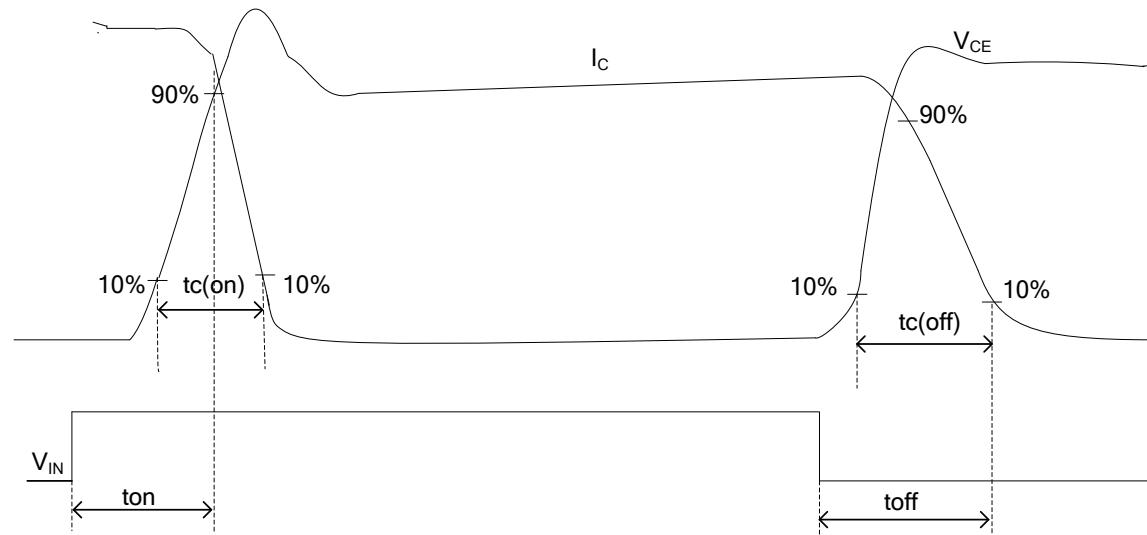

Fig 3. Switching Time Definition
**Note 2 :** ton and toff include the propagation delay time of the internal drive IC. tc(on) and tc(off) are the switching time of IGBT itself under the given gate driving condition internally. See figure 3.